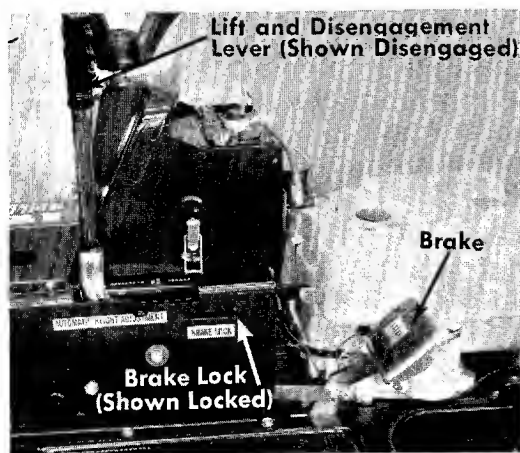

FIGURE 8. RIGHT HAND CONTROLS
- c. **Brake.** The brake pedal is located on the right hand side of the mower and is operated by depressing it with your right foot. See figure 8.
j. Lift and Disengagement Lever. It is used to raise the cutting deck. Pulling it all the way back and locking it disengages the blades. The engine will not start unless the lift and disengagement lever is in the disengaged position. See figure 8.
Step 3. Place the lift and disengagement lever in DISENGAGED position. See figure 8.
To stop the blades, move the lift and disengagement lever (figure 8) into the **DISENGAGED** position. This raises the deck and disengages the blades.